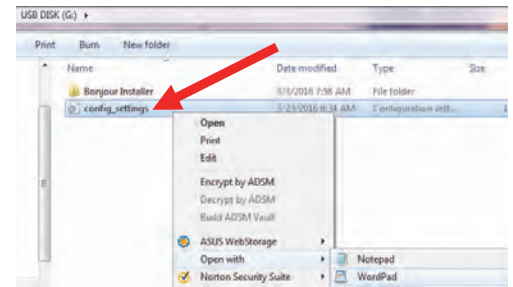

Figure 1
1. On the initial installation, the service tech will have to configure the parameters listed in the config_settings.ini file on the USB drive by opening the file with Notepad++ utility available in Microsoft PC based machine. Right click on the file and Open with Notepad to edit the file (see Figure 1).